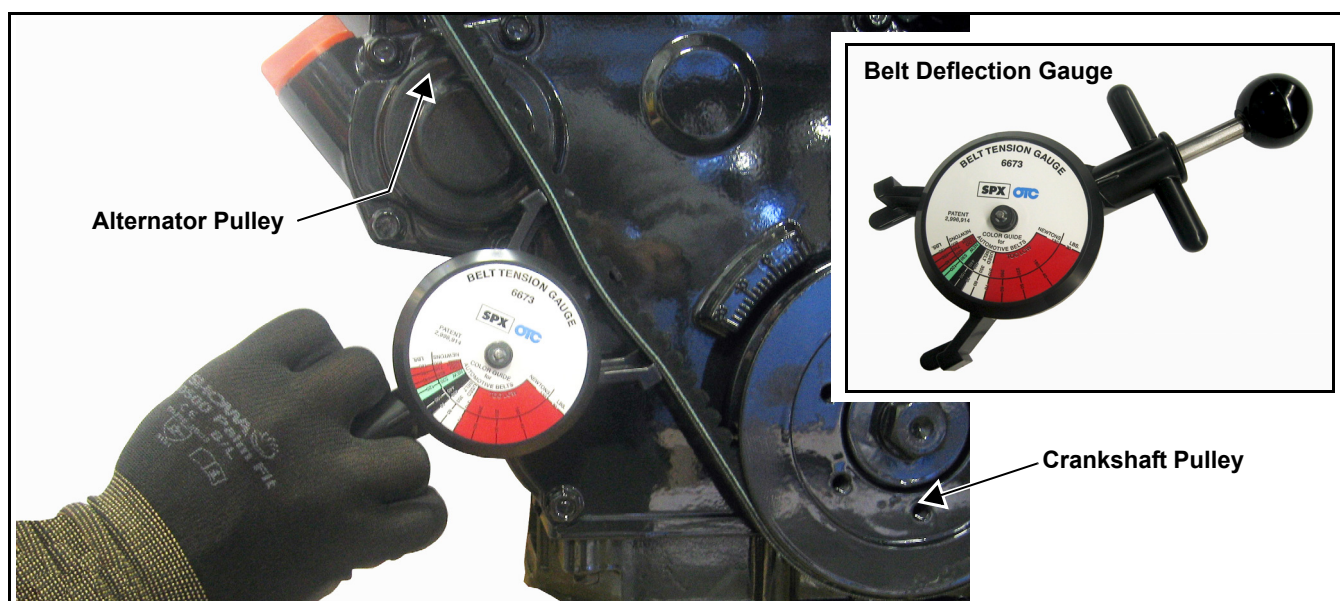

Figure 5-13. Check V-Belt Deflection
5. Using a suitable gauge, apply 22 lbs (10 kgf) force midway between the crankshaft and alternator pulleys. See Figure 5-13.